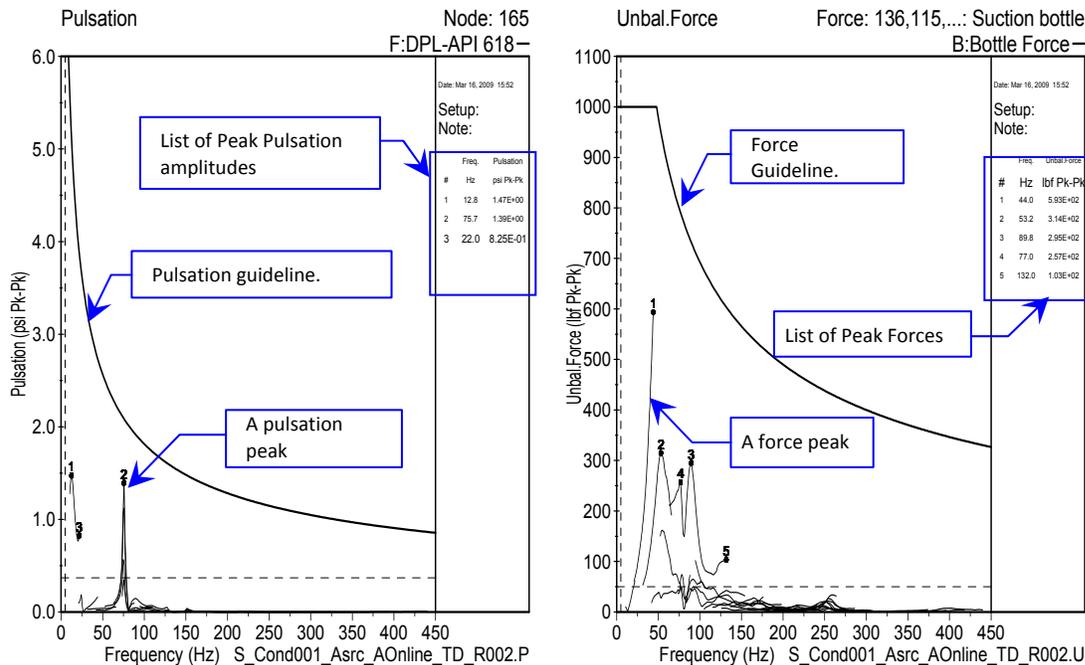

Figure 2.4: Example of Pulsation (Pressure) and Force Plots
**Pulsation Analysis Plots** As shown in Figure 2.4, the pulsation report will include plots of pressure pulsations (left) and pulsation forces (right). The consultant should compare the predicted results against the API guideline. These charts will illustrate the amplitude of the forces, as well as the frequency – which is important for the mechanical analysis.